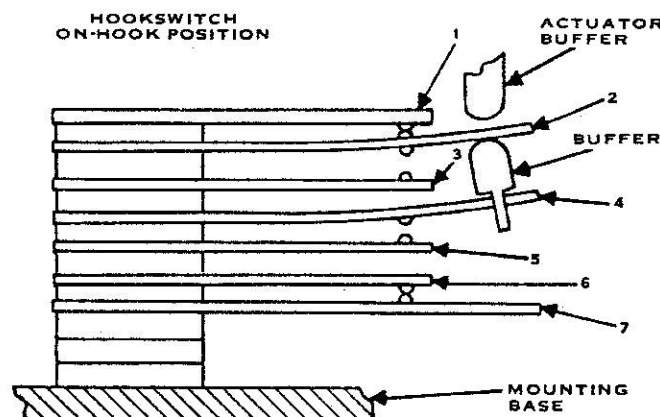

Figure 18. Type 80E Hookswitch Adjustment.
11.01 When a Type 80 telephone is being converted to a Type 80E telephone (as described in paragraph 9.04) and the hookswitch requires adjustment, perform the following (refer to Figure 18):
- (c) Block the plunger arm in the on-hook position measured in step (b). Adjust back spring 1 (Figure 18) in such a way that, when the contacts of 1 and the contacts of lever spring 2 are engaged, the following conditions exist:
- (1) There is a minimum of 13 grams of force on the contacts as measured on the lever spring near the contacts.
- (2) The actuator buffer just touches lever spring 2 or has minimal clearance between it and lever spring 2.